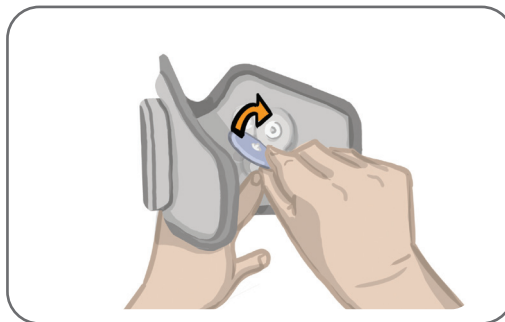

Figure 11-6: Attaching the Round Cloth Electrodes
6. Attach the Round Cloth Electrodes to the electrode bases. See Figure 11-6.